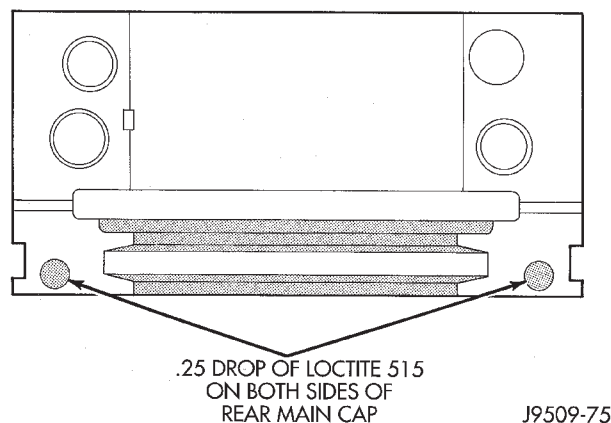

Fig. 39 Sealant Application to Bearing Cap
- (1) Lightly oil the new upper seal lips with engine oil.
- (2) Install the new upper rear bearing oil seal with the white paint facing towards the rear of the engine.
- (3) Position the crankshaft into the cylinder block.
- (4) Lightly oil the new lower seal lips with engine oil.
- (5) Install the new lower rear bearing oil seal into the bearing cap with the white paint facing towards the rear of the engine.
- (6) Apply 5 mm (0.20 in) drop of Loctite 518, or equivalent, on each side of the rear main bearing cap (Fig. 39). DO NOT over apply sealant or allow the sealant to contact the rubber seal. Assemble bearing cap to cylinder block immediately after sealant application.